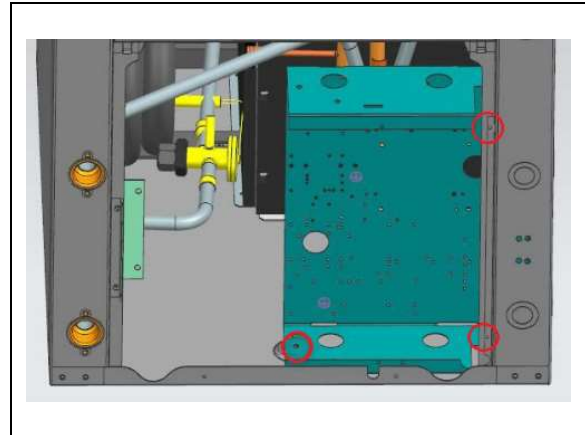

Figure 2. Electrical Box Screws Location
- a. Remove screws holding Electrical Box to unit base and to unit corner post. See Figure 2.